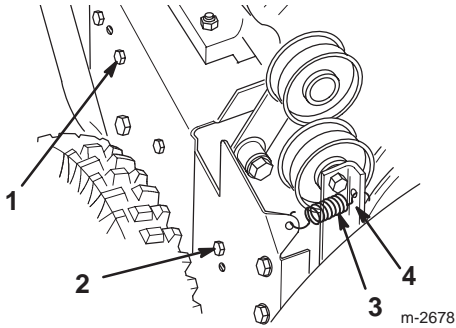

Figure 25
2. Bolt (3)
4. Loosen the auger brake arm assembly by loosening the rearmost screw and removing the front screw (Fig. 25).
5. Remove the idler pulley spring (Fig. 25). Let the brake arm assembly hang free but out of the way.
4. Loosen the auger brake arm assembly by loosening the rear screw and removing the front screw that fasten the auger brake arm assembly to the frame (Fig. 25).
5. Remove the idler pulley spring (Fig. 25). Let the brake arm assembly to hang free but out of the way.